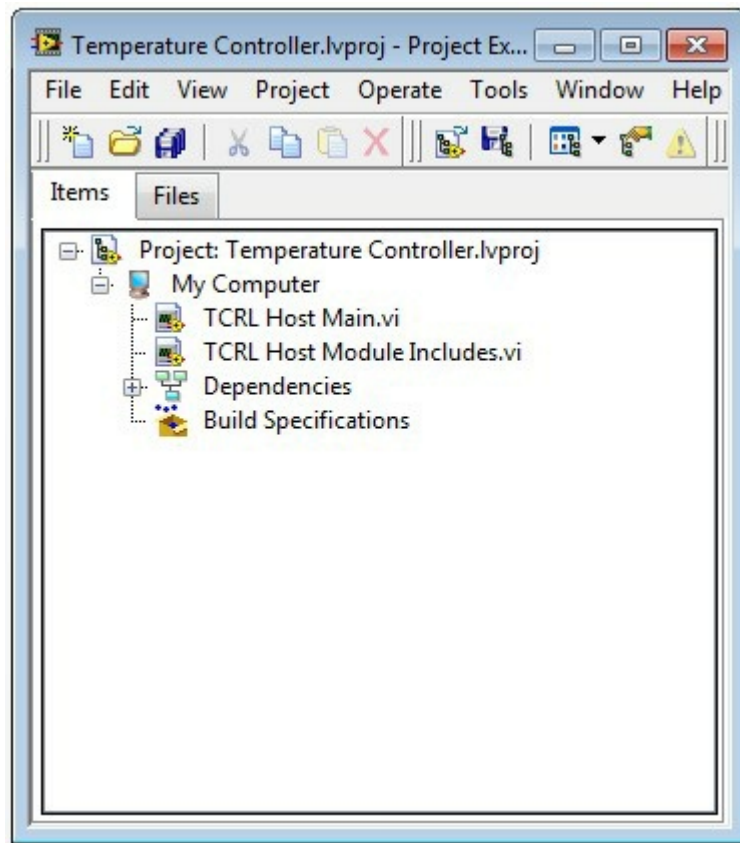

Figure 1.2
3. Verify your project window matches Figure 1.2.